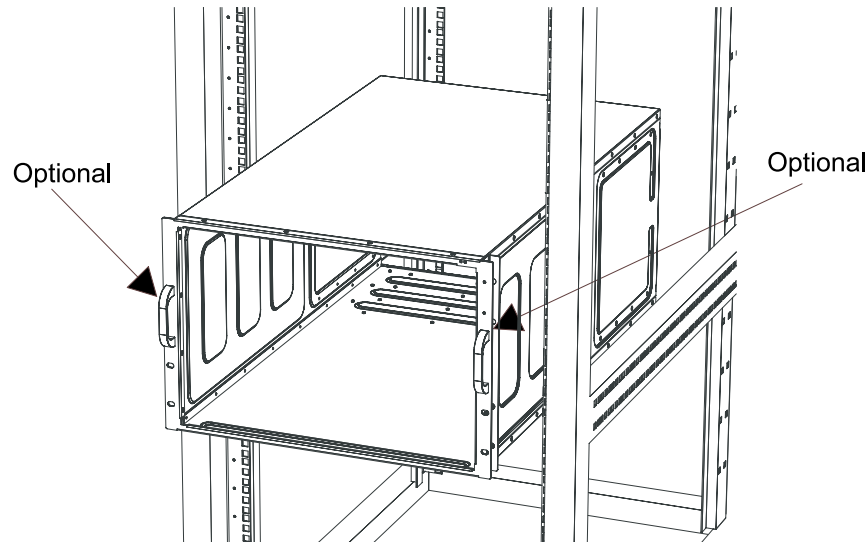

Figure 2-3. Attaching the Optional Handles
5. (Optional step) Add the front left and right handles to the chassis using five screws to secure each handle. Install a thumbscrew through the bottom hole of each handle (see Figure 2-3).